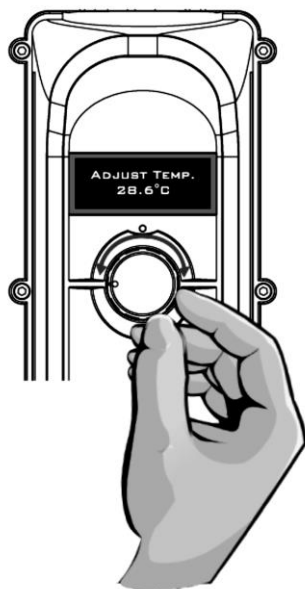

Fig. 13
The setting can be changed (desired water temperature), any time by simply turning the knob clockwise or anti clockwise until the required temperature is shown on the display (see Fig.13). To confirm the changes, press the knob button (OK).